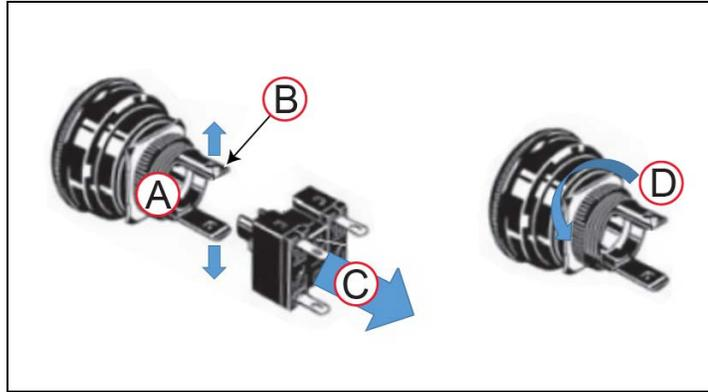

Figure 9-10 Removing the E-Stop Button
3. On one side of the AMR, remove the E-Stop button from its bracket as shown in Figure 9-10. Use your fingers or a flat-blade screwdriver to gently spread the prongs on the rear side of the E-Stop (A) and remove the E-Stop latch button (B) from the switch body (C).
4. Unscrew the threaded locking ring (D) and remove the button from the AMR. Leaving all cabling in place.
- Referring to Figure 9-10, insert the button into its mount and tighten the locking ring (D) to retain it in place. Push the switch body (C) onto the E-Stop button (A) until the prongs (B) click into place. Pull on the switch body to make sure that it is connected.